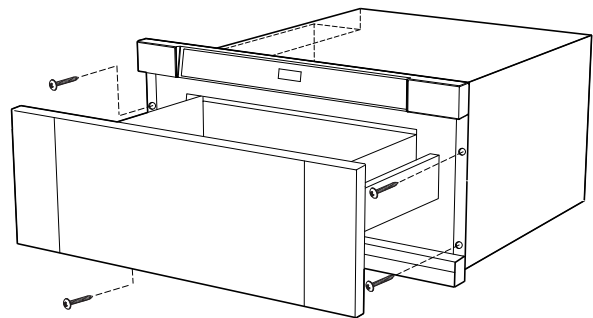

Figure 7A
4. Open the drawer. Using the 4 holes on the drawer as a template, predrill the cabinet using a 1/16" bit. See Figure 7A.